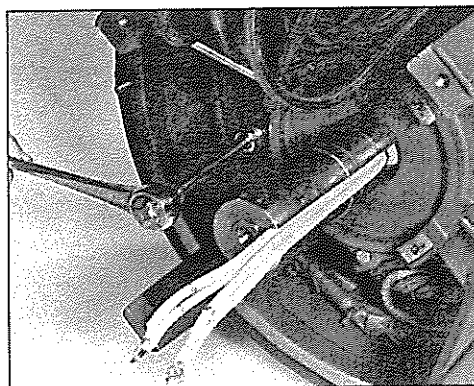
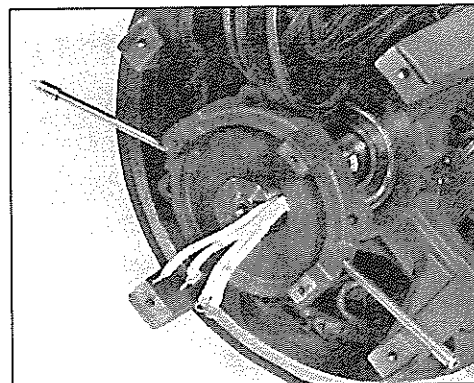
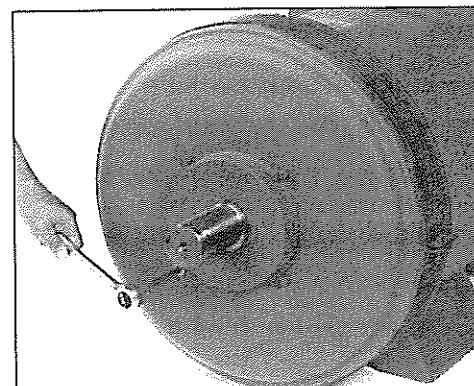

Figure 6-21
Figure 6-22
Figure 6-23
2. a. For single bearing generators, remove the four capscrews holding the bearing caps to the front end bracket (figure 6-21). Remove the outer cap (figure 6-22).
- b. For two-bearing generators, remove the drive coupling or sheave and key from the shaft extension. Remove the four capscrews holding the bearing lock to the drive end bracket (figure 6-23). Remove the four capscrews holding the bearing caps to the front end bracket (figure 6-21). Remove the outer cap (figure 6-22).